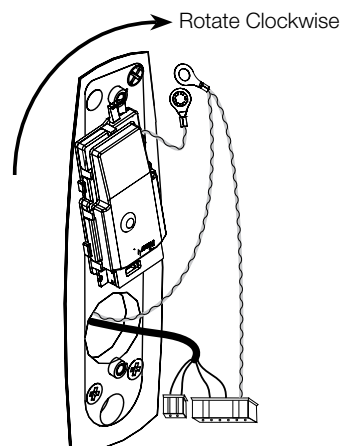

Figure 21
2. Press piece against door while turning clockwise. (Figure 21)